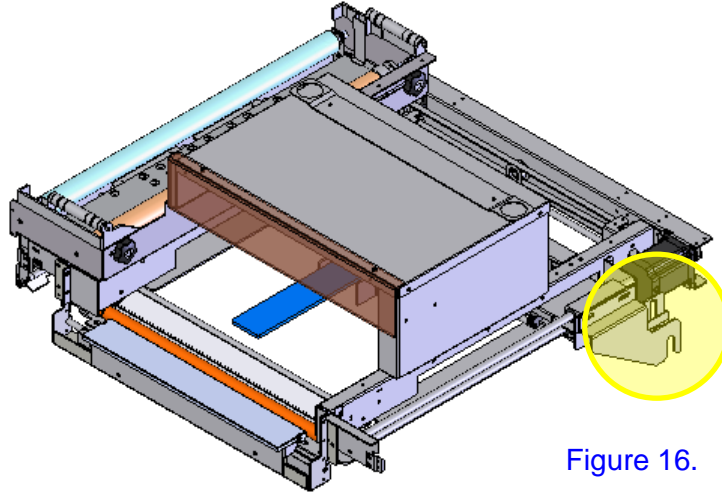

Figure 16.
20. Lift the Top assembly (see Figure 16) off the main body (see Figure 17).